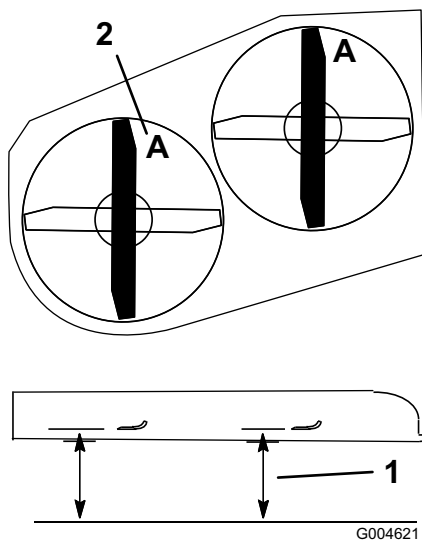
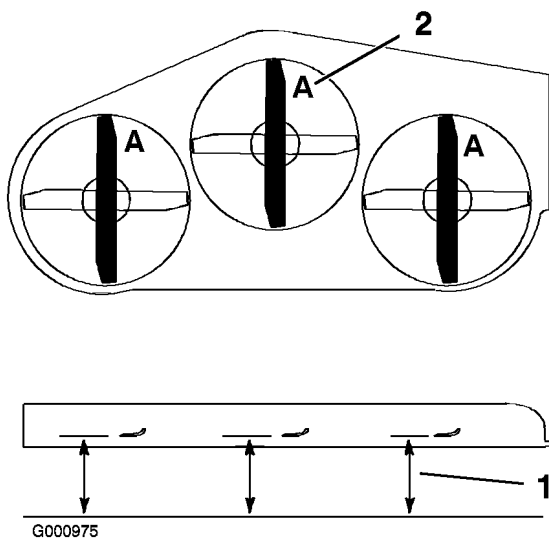

Figure 56
Figure 57
14. The right blade at the front position (Figure 56 or Figure 57) needs to be the same height as the left blade at the front position.
3. Rotate the blades until the ends face forward and backward (Figure 56 or Figure 57). Measure from a level surface to the cutting edge at position **A**, of the blades (Figure 56 or Figure 57). Note this dimension.